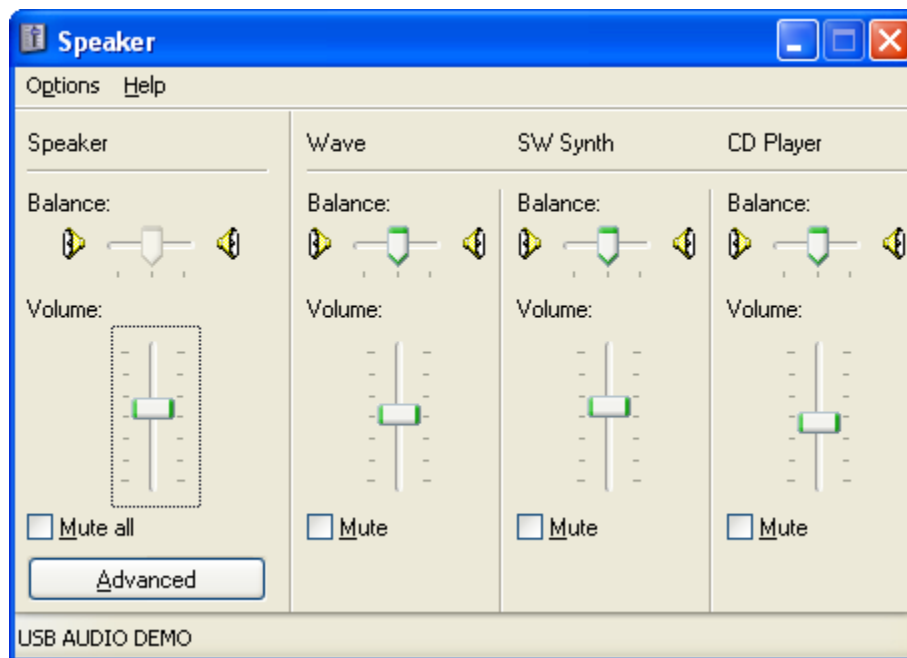

Figure G-7. Master volume
5. To verify whether the USB Audio Device has been selected as the default device or not, you must right-click on master volume icon. Master volume dialog appears as shown in Figure G-7.